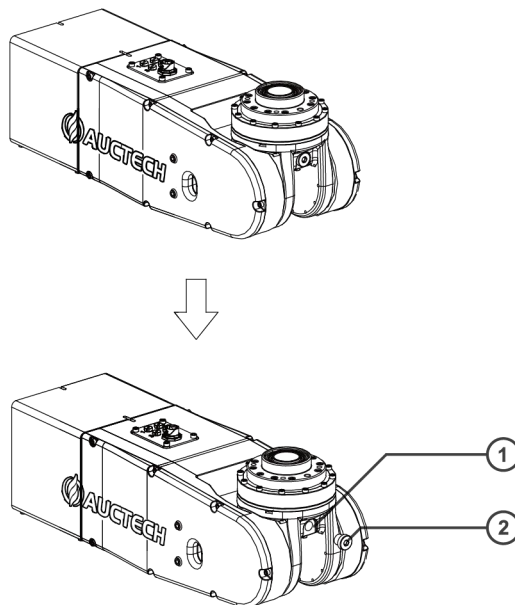

Fig. 35 Grease refill
- 1) Rotate the wrist from zero to 90 degrees upward (as shown in Fig. 35). Turn off the power;